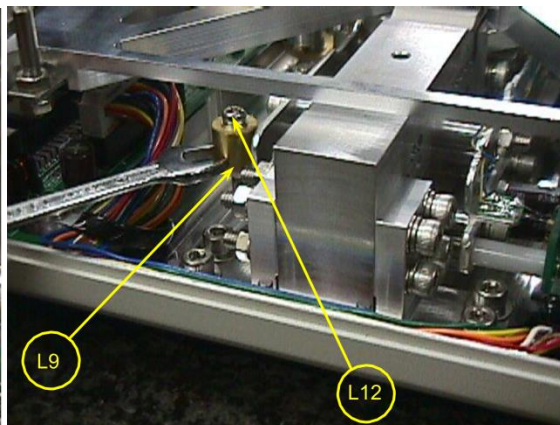

Fig.27
- Once adjustment is complete, lock the P4 M3x25 screw (L12) with the M3 nut (L9)(Fig.27).